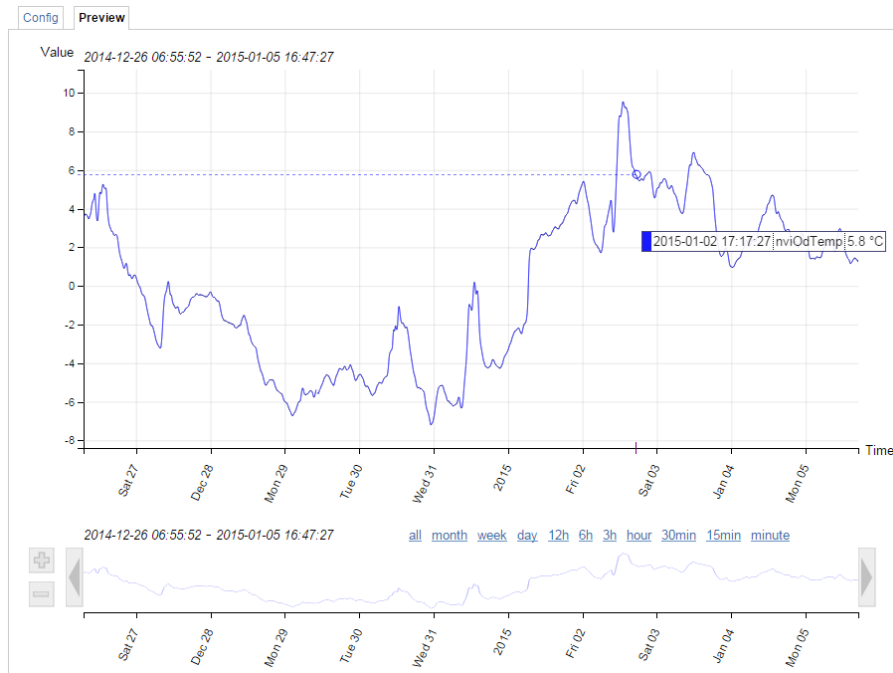

Figure 51: New trend chart on the Web UI
- The trend log configuration on the Web UI now also provides a preview tab, which shows a chart of the trend log data. The trend chart allows zoom, scrolling and hiding specific data curves, as shown in Figure 51.